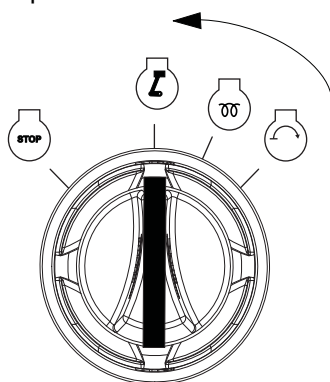

Figure 3-9. Release Key
- See Figure 3-9. Release ignition switch. It moves to the RUN position.